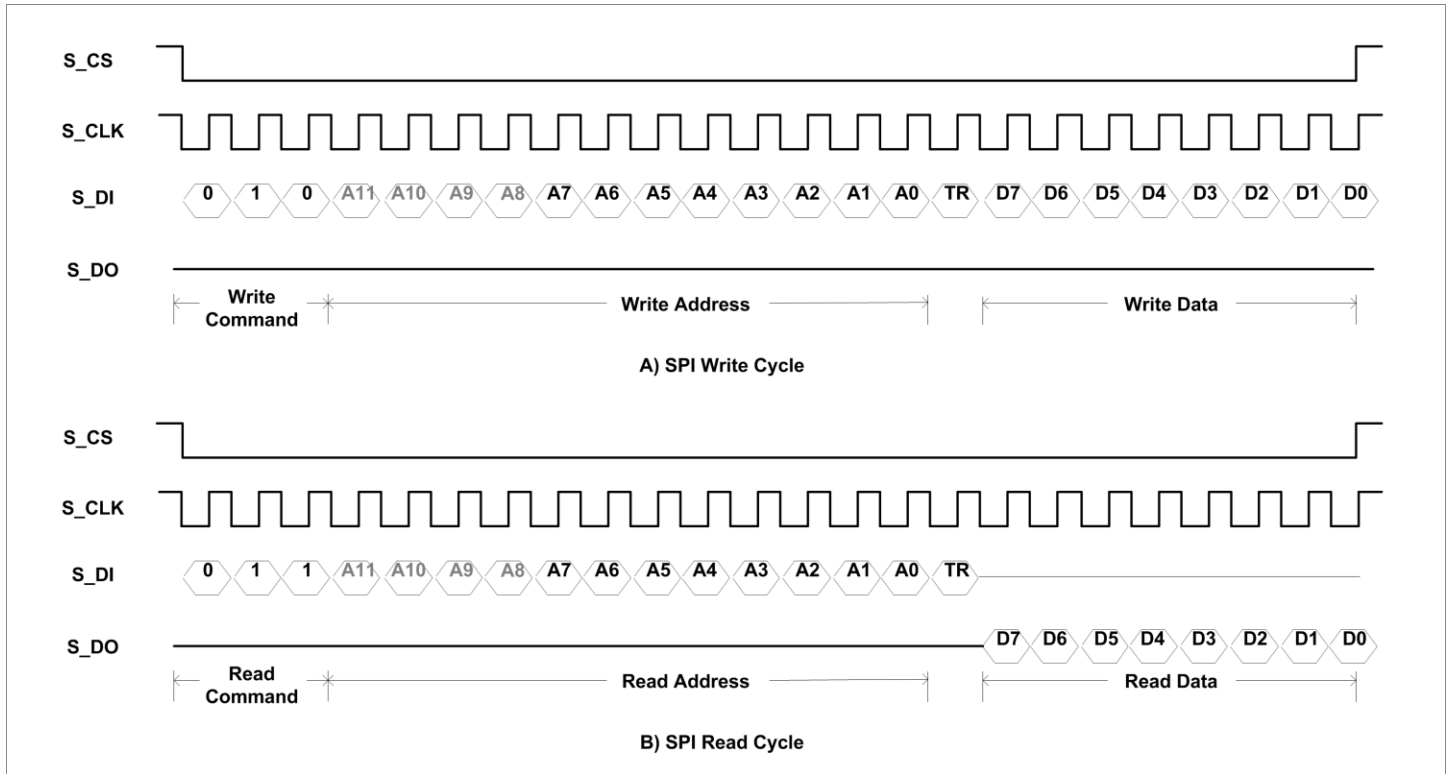
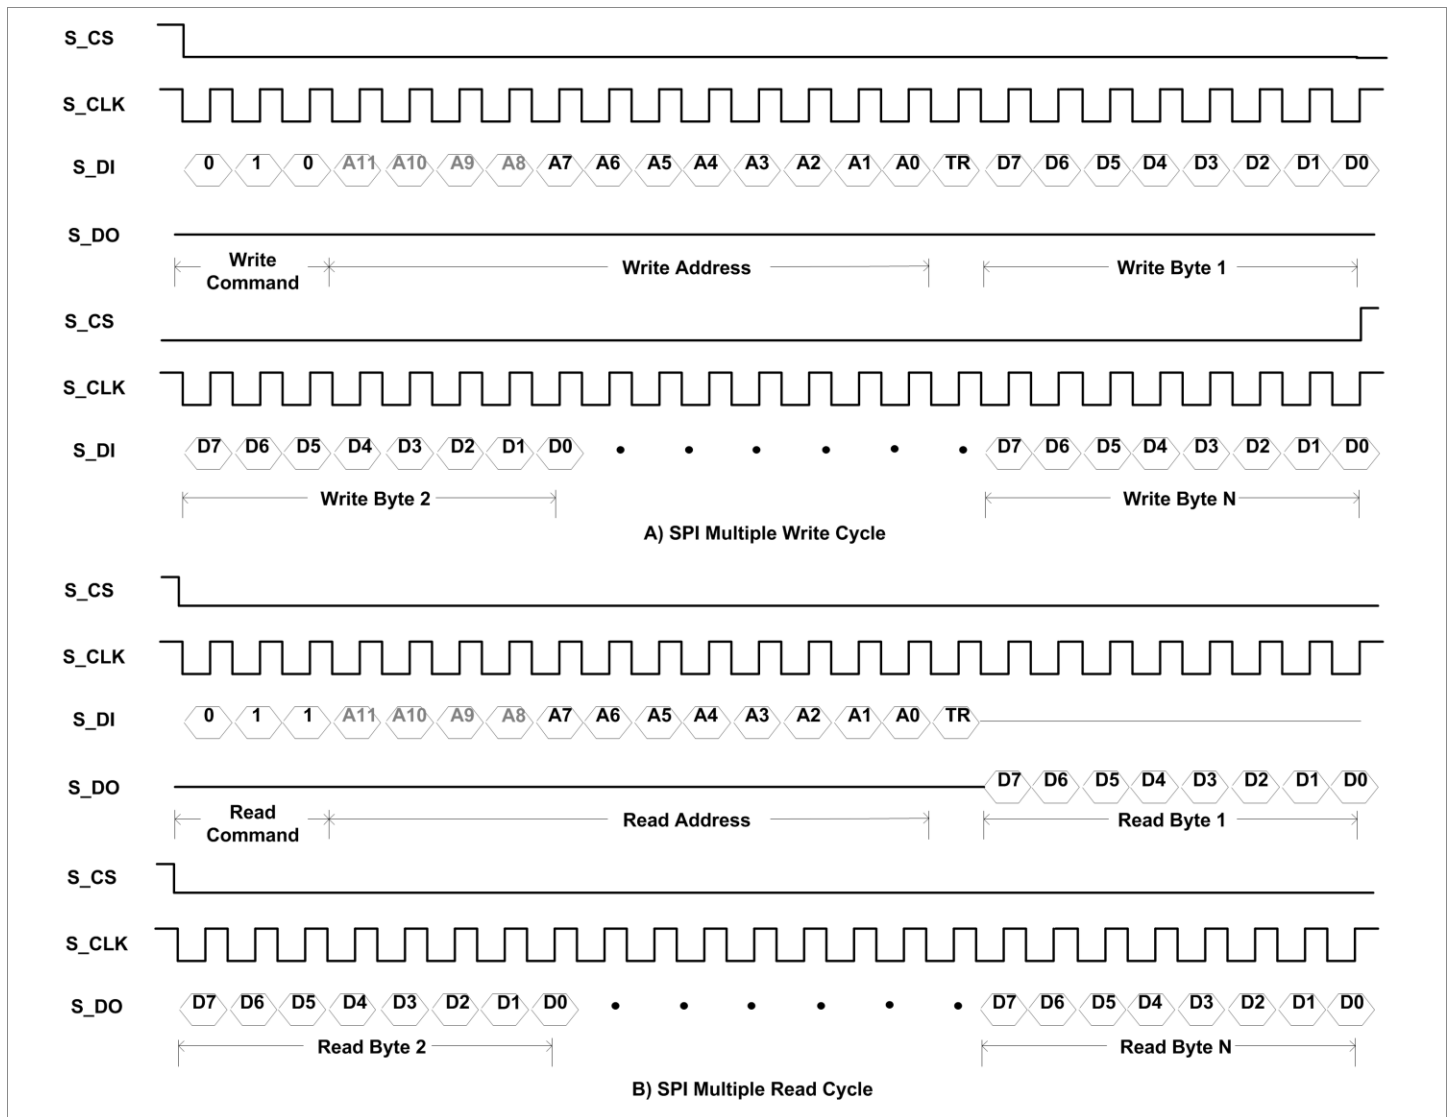

Figure 9. SPI Access Timing
Figure 10. SPI Multiple Access Timing
- 3. Write configuration data to registers using a typical SPI write data cycle as shown in Figure 9 or SPI multiple write as shown in Figure 10. Note that data input on SDA is registered on the rising edge of SCL clock.
- 4. Registers can be read and the configuration can be verified with a typical SPI read data cycle as shown in Figure 9 or a multiple read as shown in Figure 10. Note that read data is registered out of SPIQ on the falling edge of SCL clock.